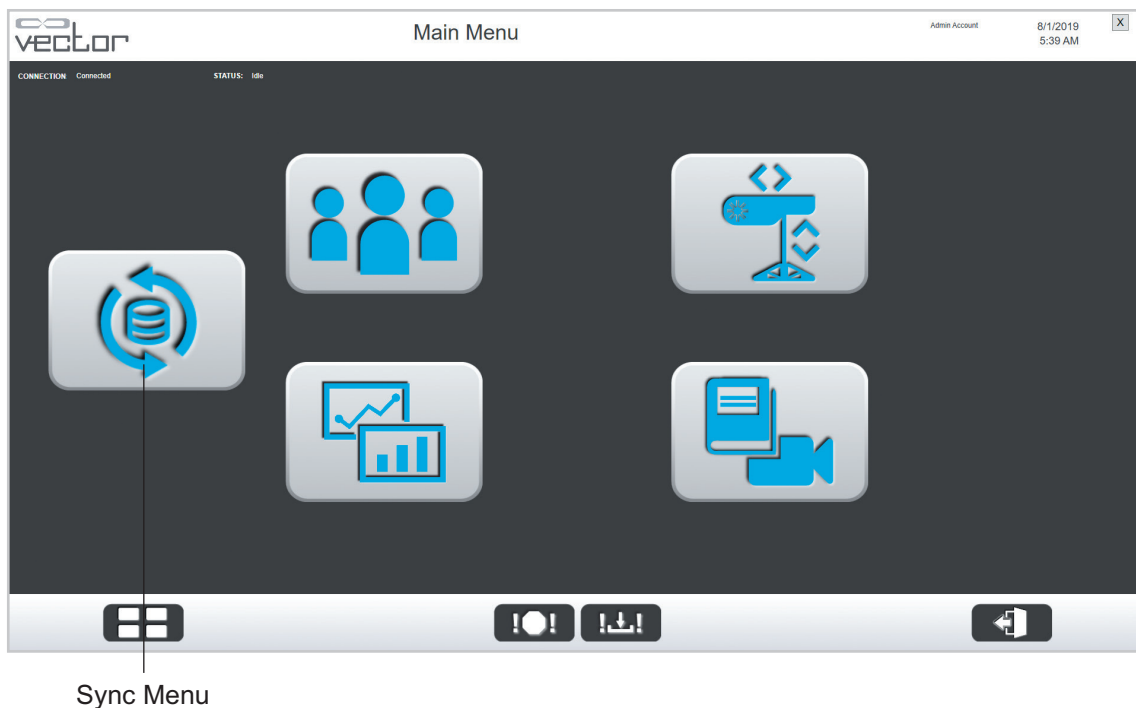

Figure 10-1: Main Menu Screen
1. Start with one of the computers. From the Main Menu screen, press the Sync menu button. See Figure 10-1.